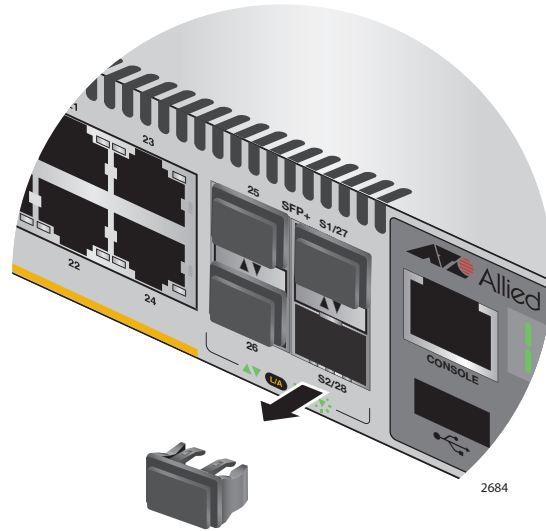

Figure 58. Removing the Dust Plug from the S2 Slot
5. Remove the dust cover from the S2 slot in the next switch in the stack as shown in Figure 58 on page 97.